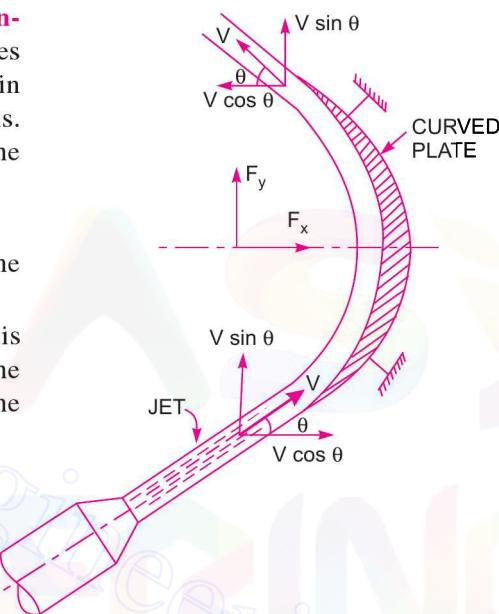

Fig. 17.4 Jet striking curved fixed plate at one end.
**(B) Jet strikes the curved plate at one end tangentially when the plate is symmetrical.** Let the jet strikes the curved fixed plate at one end tangentially as shown in Fig. 17.4. Let the curved plate is symmetrical about  $x$ -axis. Then the angle made by the tangents at the two ends of the plate will be same.